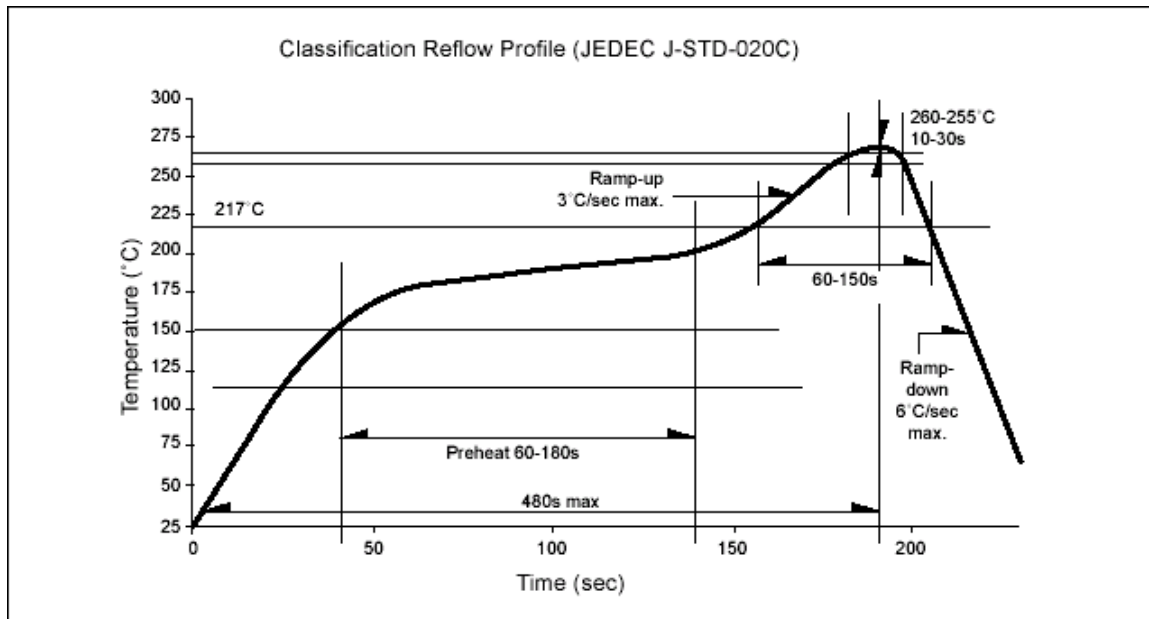

Figure 1: Recommended Pb-free Soldering Profile
- The temperature profile as shown in Figure 1 is recommended for SMTLED soldering.